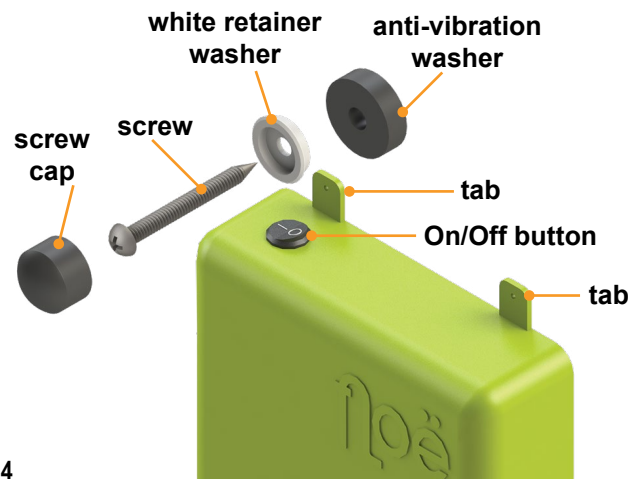

Fig.4
NOTE: The On/Off button on top (Fig.4) must be accessible or the in-line DC switch will need to be used for operation.
3. Install white retainer washers on the screws and insert screws through holes in the box tabs (Fig.4).
4. Then place anti-vibration washers on screws (Fig.4) and fasten the box to the wall. Leave box loose to allow for vertical adjustment.